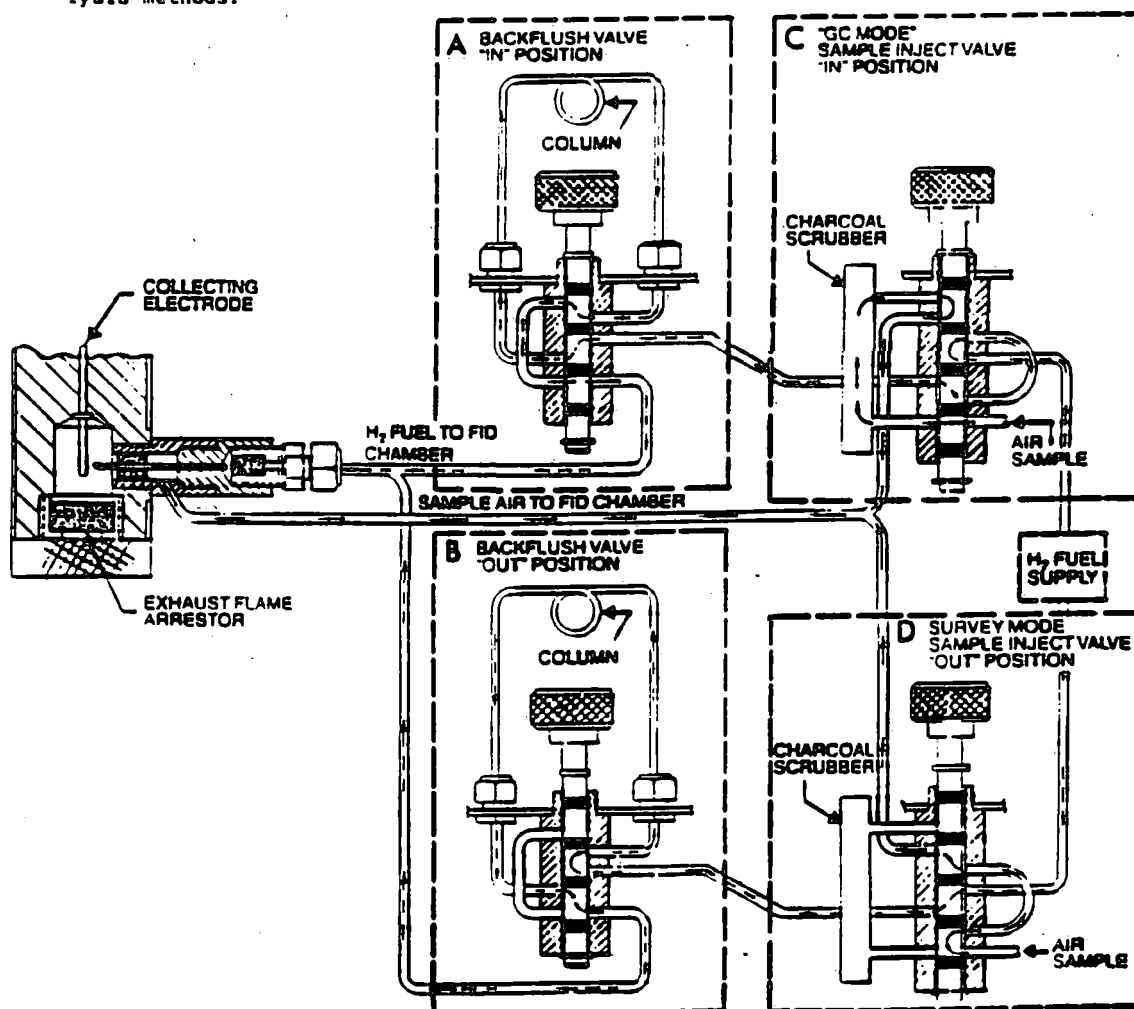

FIGURE 7
Figure 7 is a flow diagram illustrating the flow paths of the hydrogen fuel, sample air supply, and GC injected sample aliquot.
- 1) Sample Inject Valve - This two (2) position valve (shown schematically in Figure 7) is used to select either Survey Mode (valve out) or GC Mode (valve in).
- 2) Backflush Valve - This two (2) position valve (shown schematically in Figure 7) is used to reverse the flow of hydrogen through the column to:
- 4) Activated Charcoal Filter Assembly - This assembly functions only in the GC Mode (Sample Inject Valve "in") as shown schematically in Figure 7. It removes organic compounds (except methane and ethane) by absorption from the sample air supply.